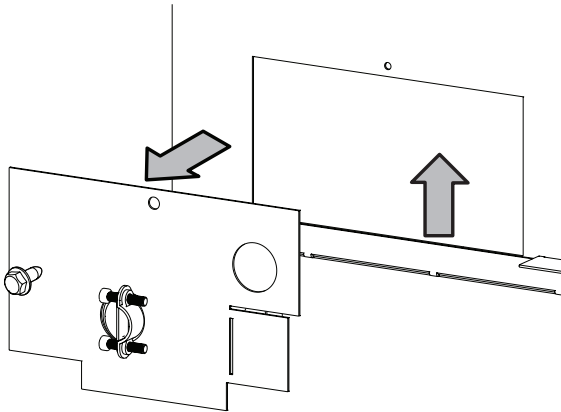

Figure 32
- Remove the electrical access cover panel from the left end of the fireplace. **See Figure 32.**
- Re-install the junction box into the firebox using the screws removed in step 2. **See Figure 32.**